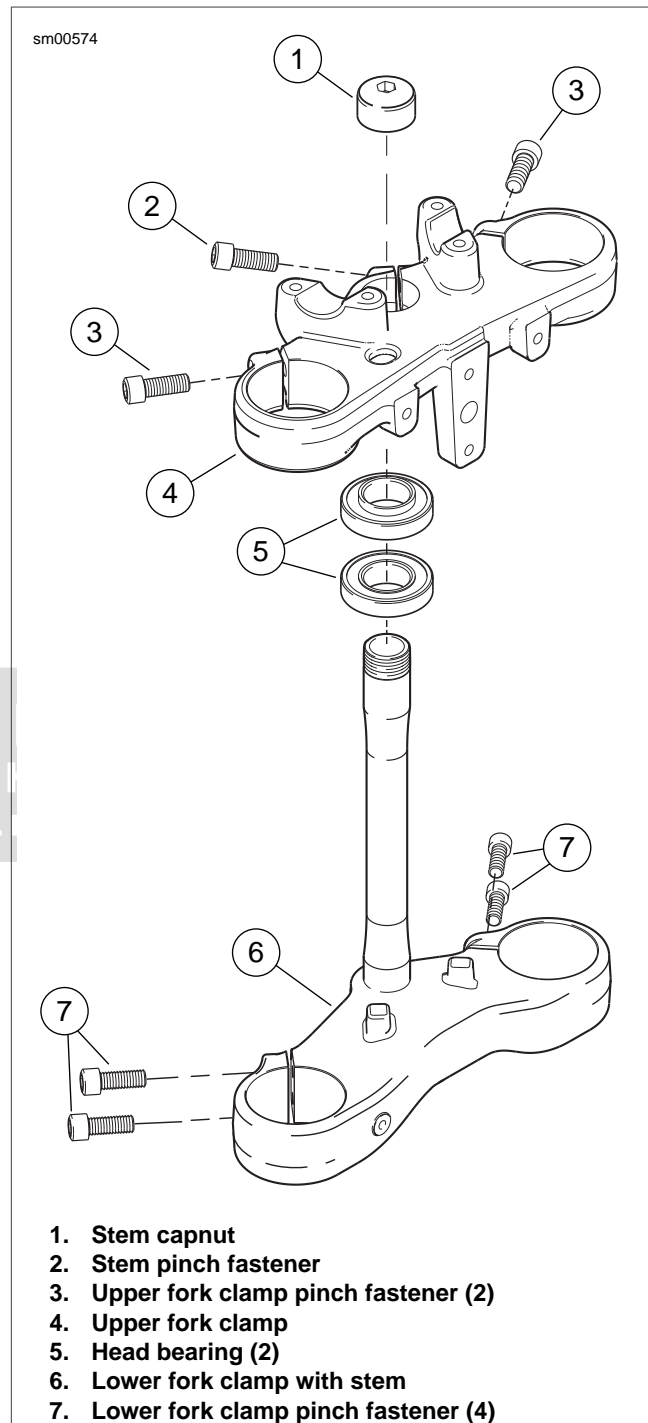

Figure 2-103. Steering Stem Assembly: Lightning/Ulysses
5. See Figure 2-103. Remove steering stem pinch fastener (2).
6. Hold or brace the lower fork clamp and remove steering stem capnut (1).
7. Remove the upper fork clamp (4).
8. Remove the lower fork clamp with stem (6).
1. See Figure 2-103. Install the lower fork clamp with stem (6) into the steering stem bore and install the upper fork clamp (4).
2. Install steering stem capnut (1). Tighten but do not torque.
3. Install one front fork assembly into lower fork clamp with stem (6).